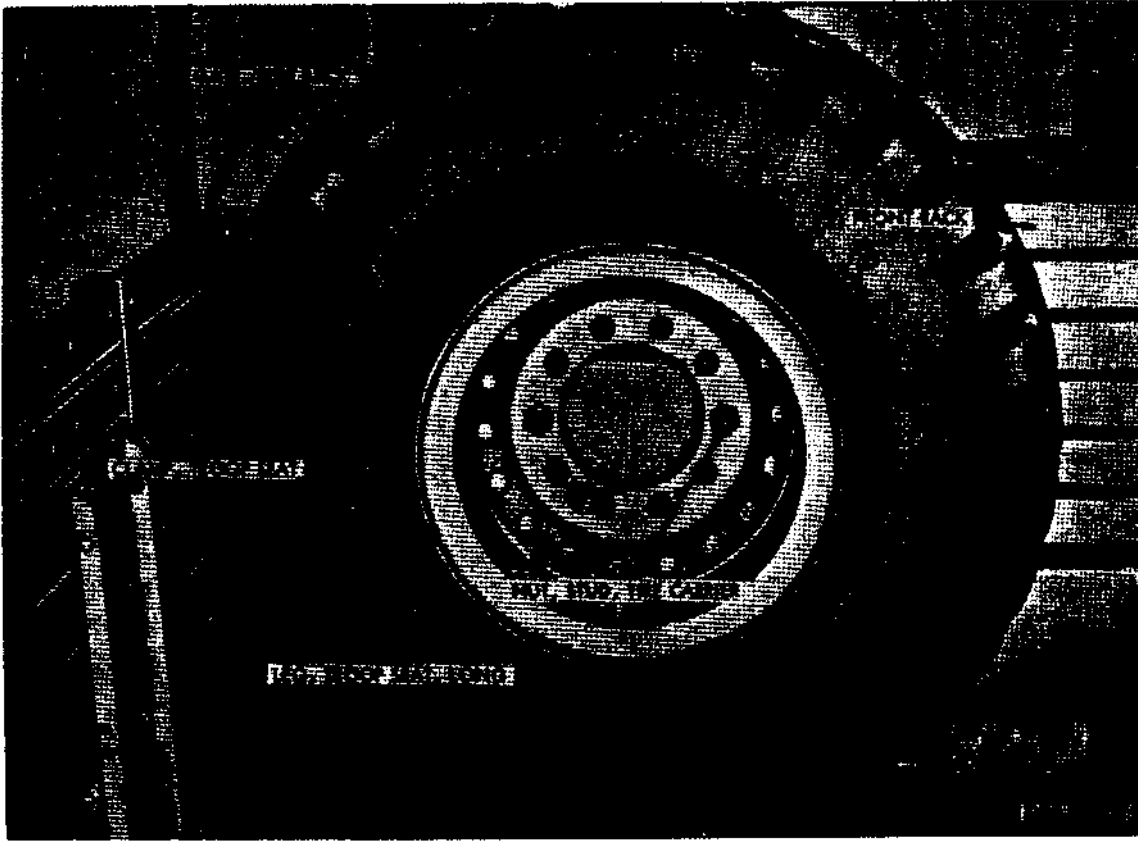

Figure 62. Spare wheel mounted
to the body. When lowered it provides a tailgate step assembly for mounting the cargo area. The spare wheel is mounted on a bracket inside the cargo body at the front end. A side rack gate allows removal of spare wheel assembly. (fig. 62)
f. Front Rack. Raise front rack (fig. 62) up to free ends of tubes from sockets and remove front rack.
g. Side Rack Assemblies. Fold right and left troop seats against side racks (fig. 62) and engage troop seat clamps. Raise side racks up to free ends of tubes from sockets and remove side racks and troop seats as assemblies. The left side rack assembly includes the side rack gate.
k. Spare Wheel Assembly. Remove two tire carrier stud nuts (Fig. 62) located inside front end of cargo, releasing spare wheel. A removable side rack gate assembly in the cargo body is provided for convenience of removing spare wheel assembly from body.
c. Side Rack Assemblies (Fig. 62). Apply a light film of oil to tubes. Position tubes in body sockets and slide side rack into place.
d. Front Rack (Fig. 62). Apply a light film of oil to tubes. Position tubes in body sockets and slide front rack into place.
e. Side Rack Gate (Fig. 62). With the left side rack and front rack in place, slide rack gate in channel on side rack and hook into front rack.
g. Spare Wheel Carrier. Position wheel and tire assembly to the two hinge-clamp studs and install two tire-carrier stud nuts (fig. 62).